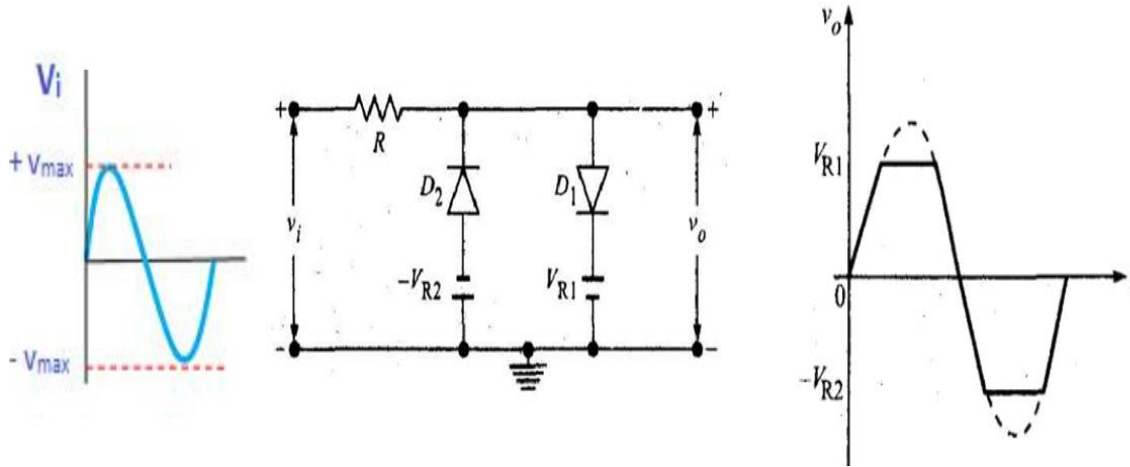

Fig. 2.22 Circuit diagram of a clipping at two independent levels
- Fig. 2.22 shows the circuit of a clipping at two independent levels.